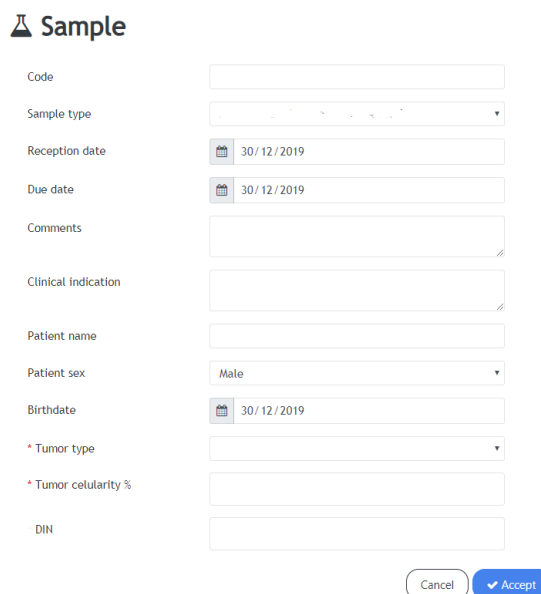

Figure 26. Pop-up screen with the required fields for each sample.
- Before processing the sequencing files, it is necessary to fill in some required fields for each sample: tumor type and percentage of tumor cells. To access the pop-up screen with these fields, click the pencil icon. Apart from the required fields, there are additional fields that the user may find use  [Figure 26]. Once filled in, click "Accept".